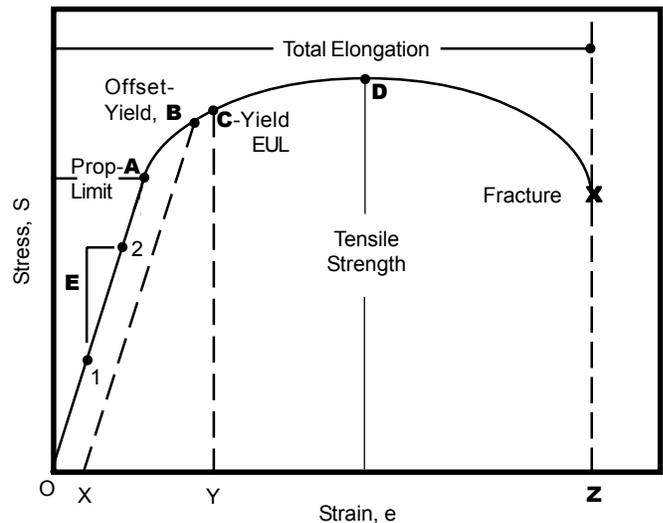

Figure 2 - Stress-Strain Curve.
A tensile test is employed to generate a stress-strain curve that provides a graphical description of the amount of deflection under load for a given material. A typical stress-strain curve is shown in Figure 2 and depicts several key measures of product quality.
Figure 2 depicts a typical stress-strain curve. The shape and magnitude of the curve is dependent on the type of metal being tested. In Figure 2, point **A** represents the proportional limit of a material. A material loaded in tension beyond point **A** when unloaded will exhibit permanent deformation. The proportional limit is often times difficult to calculate, therefore, two practical measurements, Offset Yield Strength and Yield by Extension Under Load (EUL) were developed to approximate the proportional limit. The initial portion of the curve below point **A** represents the elastic region and is approximated by a straight line. It is commonly referred to as the linear elastic or Hookean region. The slope (E) of the curve in the elastic region is defined as Young's Modulus of Elasticity and is a measure of material stiffness.
Point **B** represents the Offset Yield Strength and is found by constructing a line X-B parallel to the curve in the elastic region (ie. slope of line X-B equal to Young's Modulus (E)). Line X-B is offset a strain amount O-X that is typically 0.2% of the gage length (example: offset O-X = 0.2% = 0.002 in/in and for a 2 in gage length = 0.004 in). Point **C** represents the Yield Strength by Extension Under Load (EUL) and is found by constructing a vertical line Y-C. Line Y-C is offset a strain amount O-Y that is typically 0.5% of gage length. The Tensile Strength or peak stress is represented by point **D** in Figure 2.